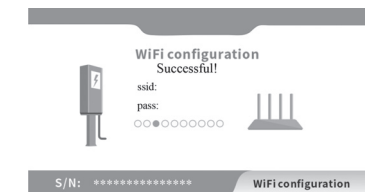

Fig.2 / WiFi configuration successful
6. When all the indicator lights flash once in a second, it indicates that the charging station's Wi-Fi configuration is completed. At the same time, the LCD screen will display „Successful“ and the name and password of the WiFi SSID (Fig.2).